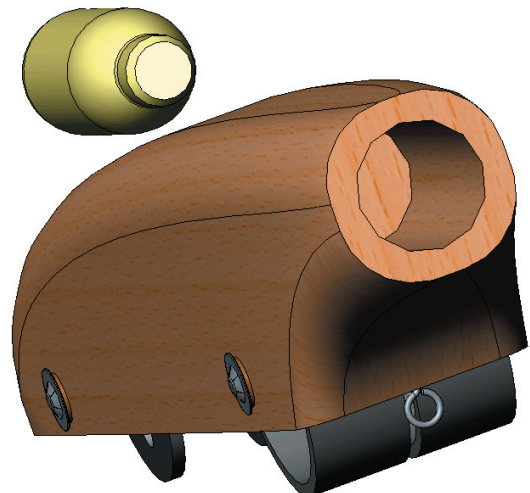

Fig. 23
Step 2. Use the arrows on the keyboard to rotate assembly to view the bottom and side of the cartridge hole, Fig. 23.
Step 6. Click approximately where the cartridge is positioned in Fig. 23.